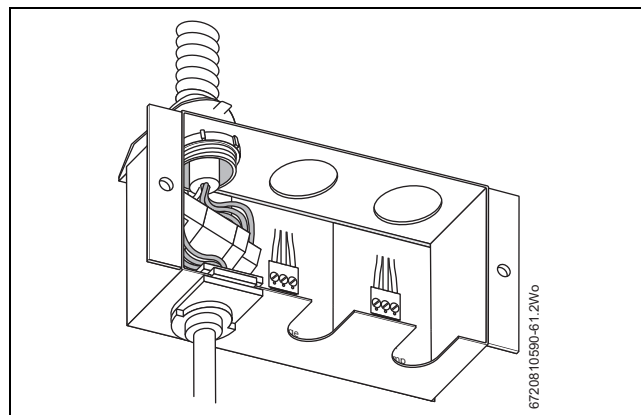

Fig. 52 Cable connected (mains power supply)
- Insert cable into the junction box as shown in Fig. 52.